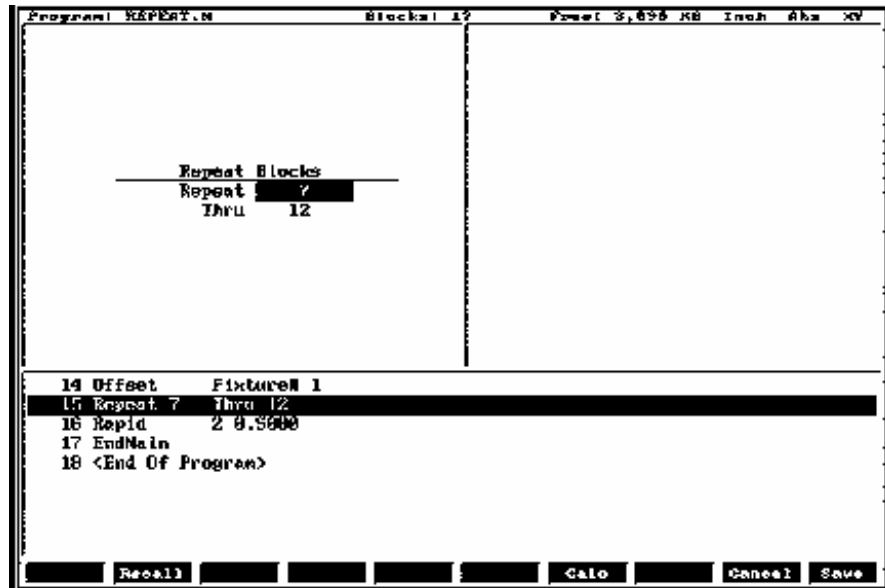

Figure 4-54, Repeat Cycle Screen
1. In Edit mode, press **Mill (F5)** and **Repeat (F8)** to display the Repeat Cycle screen, **Figure 4-54**.